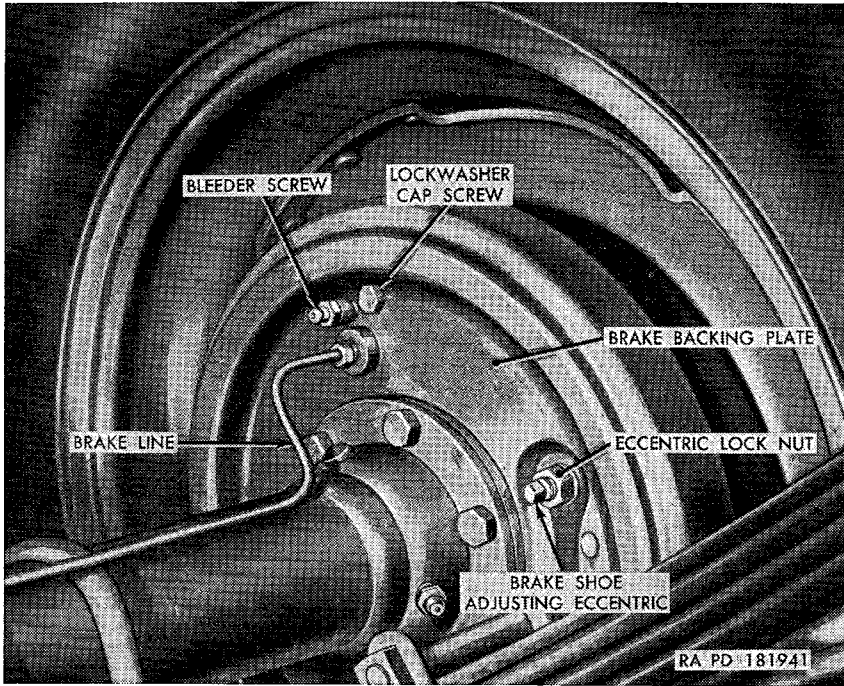
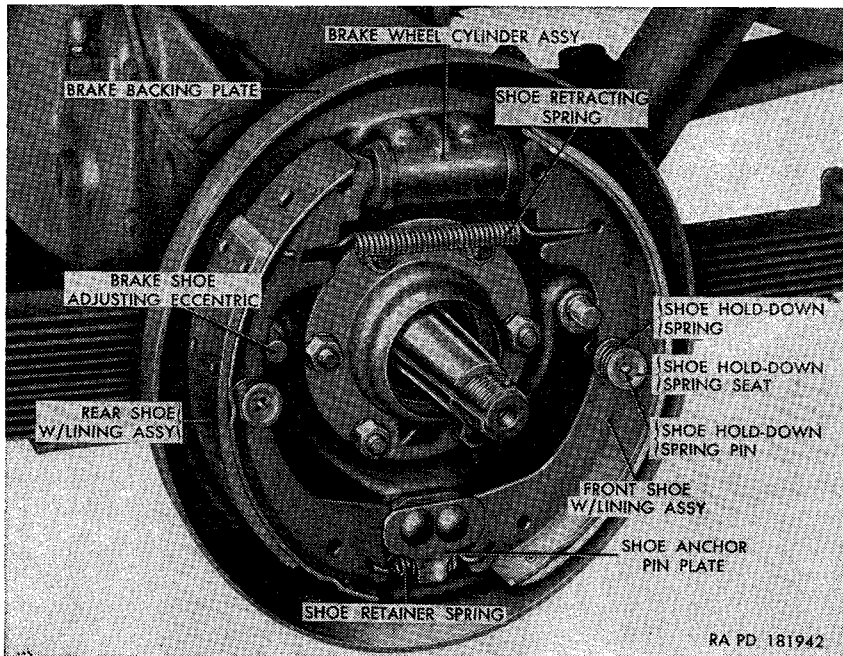

Figure 159. Rear brake backing plate installed
Figure 160. Rear servive brake assembly—wheel, hub and drum removed.
- (1) Make certain the pedal shaft assembly is lubricated and the brake pedal retracting spring is undamaged and properly connected.
- (2) Hold a rule next to the brake pedal and depress the pedal by hand. No resistance should be felt until the pedal has traveled one-half inch. If distance traveled before resistance is felt is incorrect, adjust as shown in (3) below.
- (3) Loosen the locknut on the eye bolt and turn the master cylinder push rod clockwise to decrease and counterclockwise to increase the free travel. Tighten the lock nut when adjustment is correct.
b. Service Brake Shoe Adjustment (fig. 159). Except where noted, the procedure for adjusting the service brake shoes is the same for all shoes.
- (1) Jack up the vehicle and remove the wheel and brake drum (par. 209a).
- (2) Loosen the brake shoe eccentric lock nut (fig. 159) and turn the brake shoe adjusting eccentric (fig. 160) until the low side of the eccentric touches the brake shoe.
- (3) Unhook and remove the shoe retracting spring and the (anchor end) shoe retainer spring.
- (4) Press against the shoe holddown spring seat to compress the shoe holddown spring and turn the seat until the flat end of the shoe holddown spring pin is alined with the seat slot. Remove the spring and spring seats. Remove the opposite spring and seats in the same manner.
- (5) Remove the pins through the brake backing plate.
- (6) Spread both brake shoe with lining assemblies to disengage the upper ends of the shoes from the brake wheel cylinder assembly and the lower ends from the shoe anchor pin plate. Remove both shoes with lining assemblies.
d. *Brake Shoe with Lining Assembly Installation* (fig. 160).
- (1) Jack up the vehicle and remove the wheel and brake drum (par. 209*a*).
- (2) Unhook and remove the shoe retracting spring (fig. 160) from the upper ends of the two shoes, and spread the shoes as far apart as possible.
- (3) Disconnect the brake line from the brake backing plate (fig. 159).
- (4) Remove the two lockwasher-cap screws securing the brake wheel cylinder to the backing plate and remove the cylinder (fig. 160).
- (1) Position the wheel cylinder (fig. 160) on the brake backing plate (fig. 159) with the cylinder holes alined with the plate holes. Secure the cylinder to the backing plate with two lockwasher cap screws.
- (2) Connect the brake line to the wheel cylinder fitting in the brake backing plate (fig. 159).
- (3) Insert the brake shoe ends into the wheel cylinder ends and install the shoe retracting spring (fig. 160).
- (4) Install the drum and wheel (par. 209*b*) and bleed the brakes (par. 237).